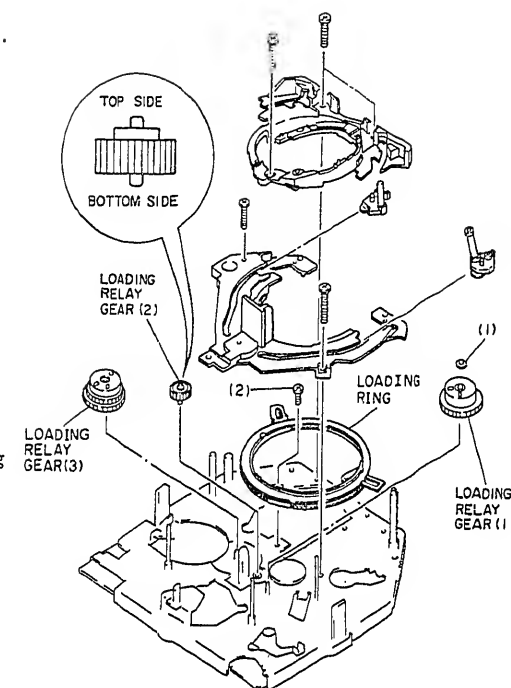

Fig. 2-17
2-19. Loading Relay gears (1)(2) (Fig. 2-17)
- 1) Remove the loading relay gear (2) from the chassis.
- 2) Remove washer (1) holding the loading gear (1).
- 3) Remove the loading relay gear (1) from the chassis.
2-20. Loading ring, loading relay gear (3) (Fig. 2-17)
- 1) Remove screw (2) holding the loading ring.
- 3) Remove the loading relay gear (3) from the chassis.